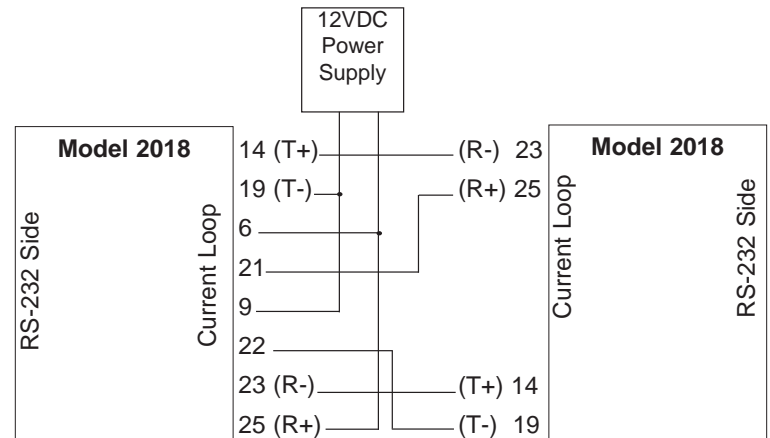

Figure 5. RS-232 distance extension
You may use the Model 2018 as a distance extender for RS-232 to RS-232 applications. In this case, you will need *two* Model 2018 converters, plus an external DC power source* on one end of the communication link. Figure 5 shows the appropriate pin/voltage for applying external DC power to the Model 2018 link.
To use two Model 2018s as RS-232 distance extenders, you will need a DB-25 cable with at least two twisted pairs (19 - 26 AWG). Your cable should be custom-wired as shown in Figure 5. Be sure the genders of the cable's DB-25 connectors are *opposite* to those of the respective Model 2018s. The maximum cable length depends on various factors, including overall cable capacitance, data rate, noise and operating environment. Call Patton Technical Support at (301) 975-1007 if you have any questions.